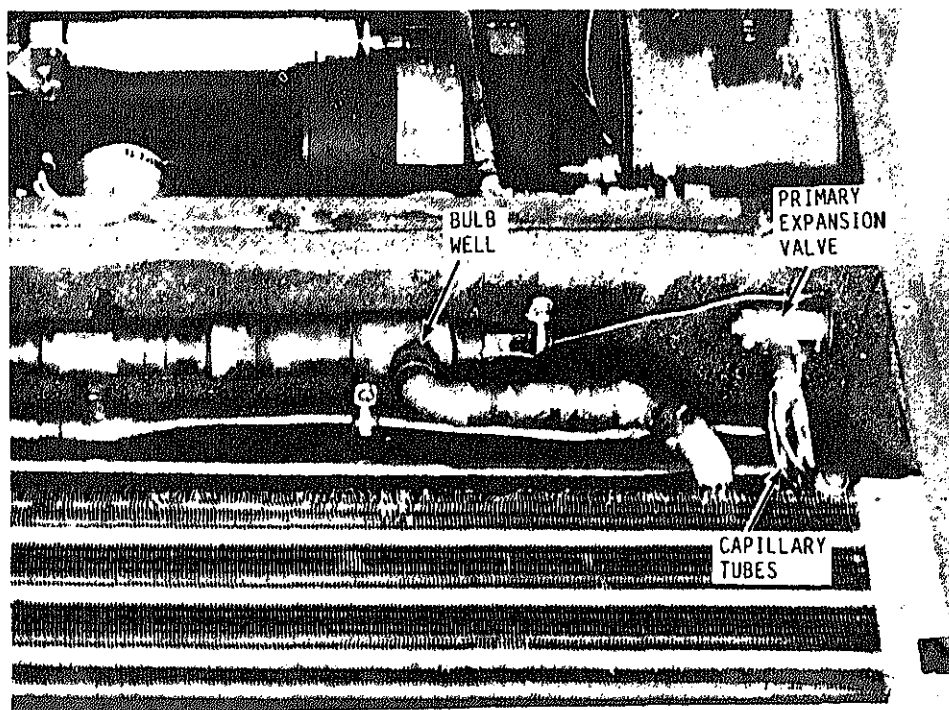

Figure 4-22. Expansion valve, primary
(2) Refer to figure 4-22 and paragraph 5-29c(4) and check that the required length of the expansion valve's sensing bulb is fully in the suction line bulb well.
(3) Refer to figure 4-22 and examine the flow restrictor capillary tube carefully. They should be very cold and evenly frosted. Unfrosted tubes are blocked and should be re-placed.
(4) If none of the capillary tube is cold and frosted, the valve is
c. Test. Test the power assembly by removing the valve's sensing bulb from the suction bulb well (figure 4-22). Hold the sensing bulb firmly in both hands for two or three minutes. The warmth from holding the bulb should put enough pressure on the bellows to start the refrigerant flowing into the system. *IF cooling does not commence, the expansion valve is defective and should be replaced. Report all defects to direct support maintenance.*